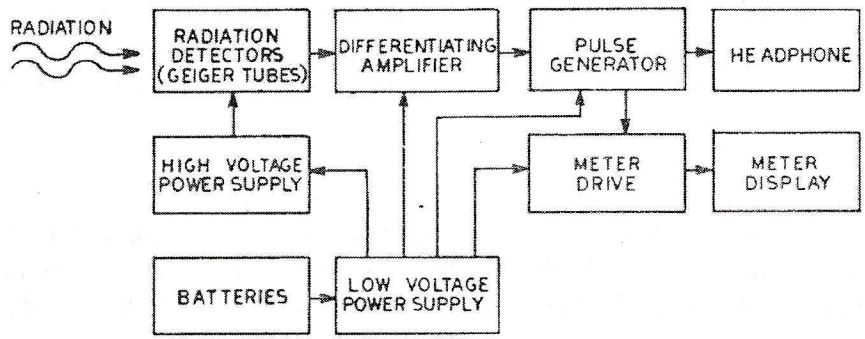

Figure 3-1. Functional Block Diagram.
- 3-1. FUNCTIONAL OPERATION. With reference to the Functional Block Diagram, Figure 3-1, the primary power source consisting of two series connected (1-1/2 volts) D-cell batteries, provides over sixty hours of continuous instrument operation. A transistorized power supply converts the three volts from the batteries into a regulated +710 volt G-M tube anode voltages and a  $\pm$  4.5 volt output for the computer-indicating circuitry operation. Beta particles (on the 0.5 and the 5.0  $\mu$ R/hr ranges) and gamma rays on all ranges cause the Geiger tubes to produce voltage pulses which are then fed through a differentiating amplifier to a pulse generator followed by a meter drive circuit. The pulse generator provides pulses to the headphone for aural monitoring and supplies a DC current, proportional to the average pulse repetition frequency, to the indicating meter.
C. Listing Probable Faulty Function. The next step in logical troubleshooting is to formulate a number of "logical choices" as to the cause and likely location (functional section) of the trouble. The logical choices are mental decisions which are based on knowledge of the equipment operation, a full identification of the trouble symptom, and information contained in this manual. The overall functional description and its associated block diagram should be referred to when selecting possible faulty functional sections. See Figure 3-1 and Table 5-1.